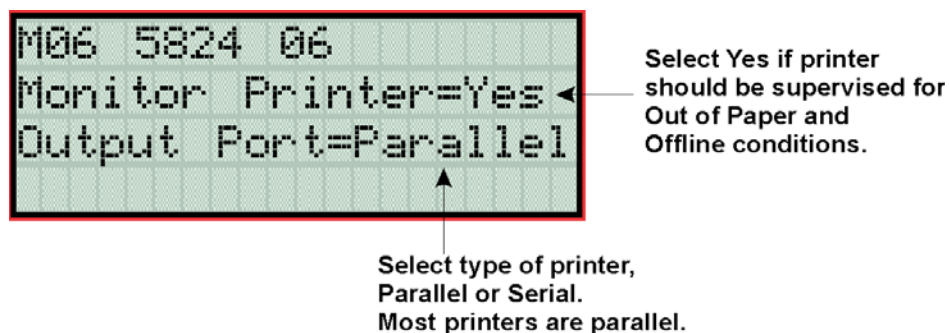

Figure 4-19 Selecting Printer and Output Port Options
5. Press **ENTER/ACK** to bypass the next two screens. A screen similar to the one shown in Figure 4-19 will display.